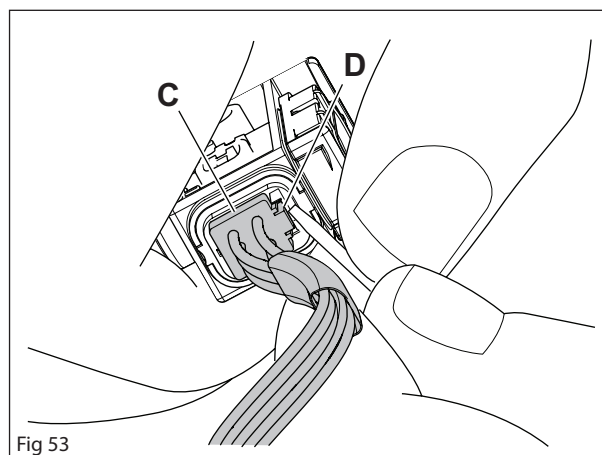

Fig 53
To disconnect the cable (A), free the catch (D) with a small screwdriver and pull the contact (C) out.. NB! Do not pull on the wires. Hold the contact only when you pull it out. See figure 53.